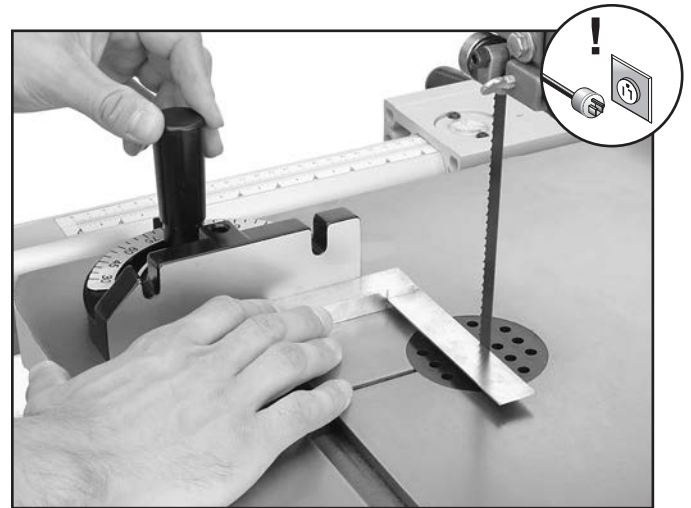

Figure 29. Squaring miter gauge to blade.
1. Place one edge of a machinist's square against the face of the miter gauge and the other side against the blade face, as shown in **Figure 29**.